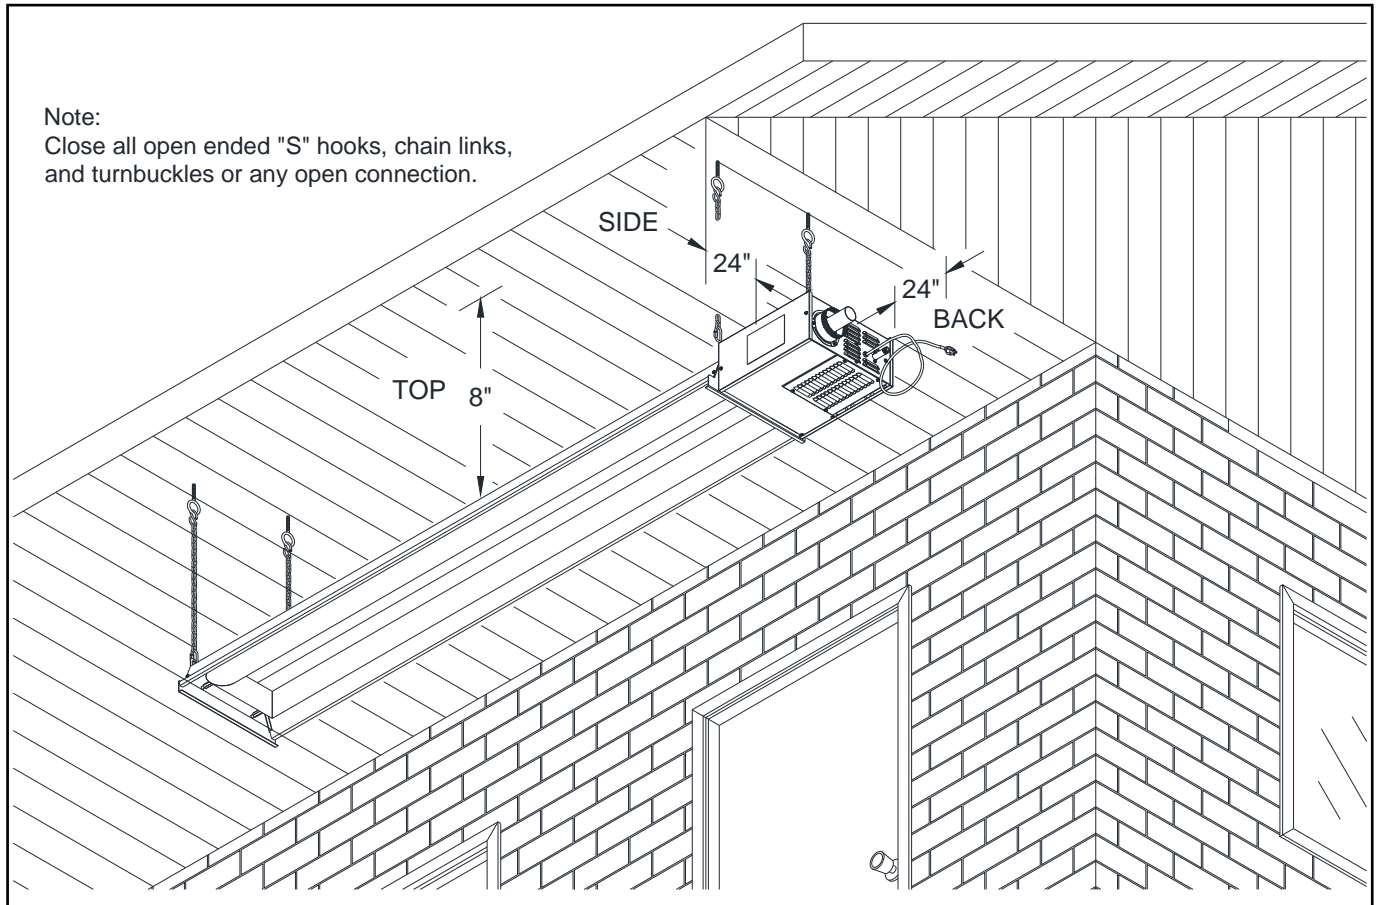
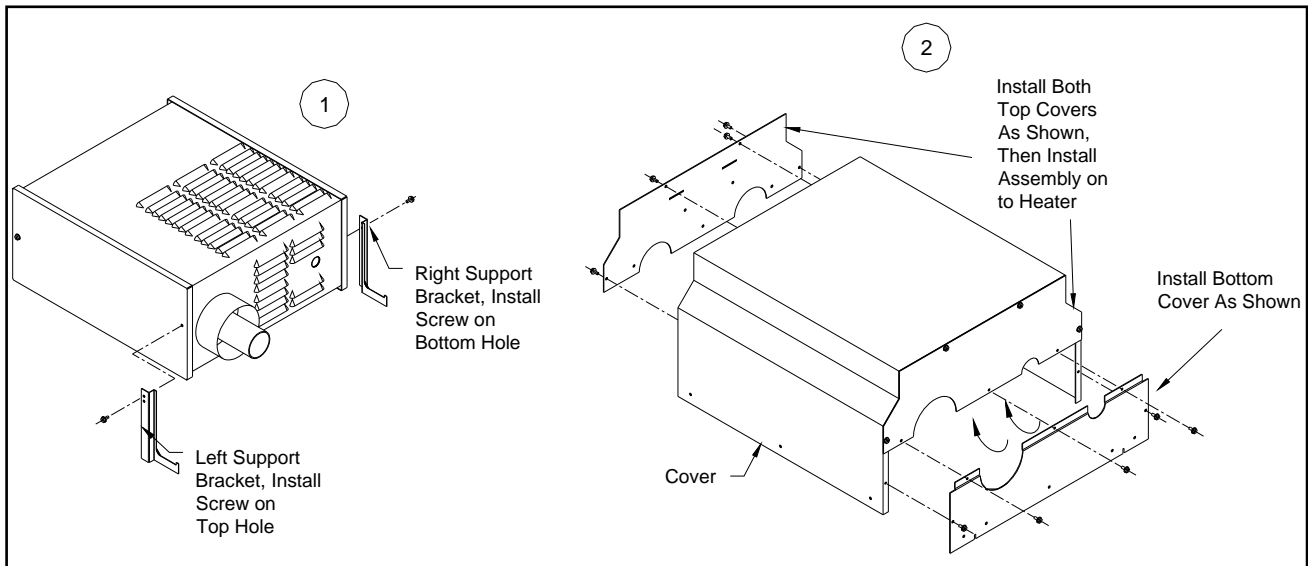
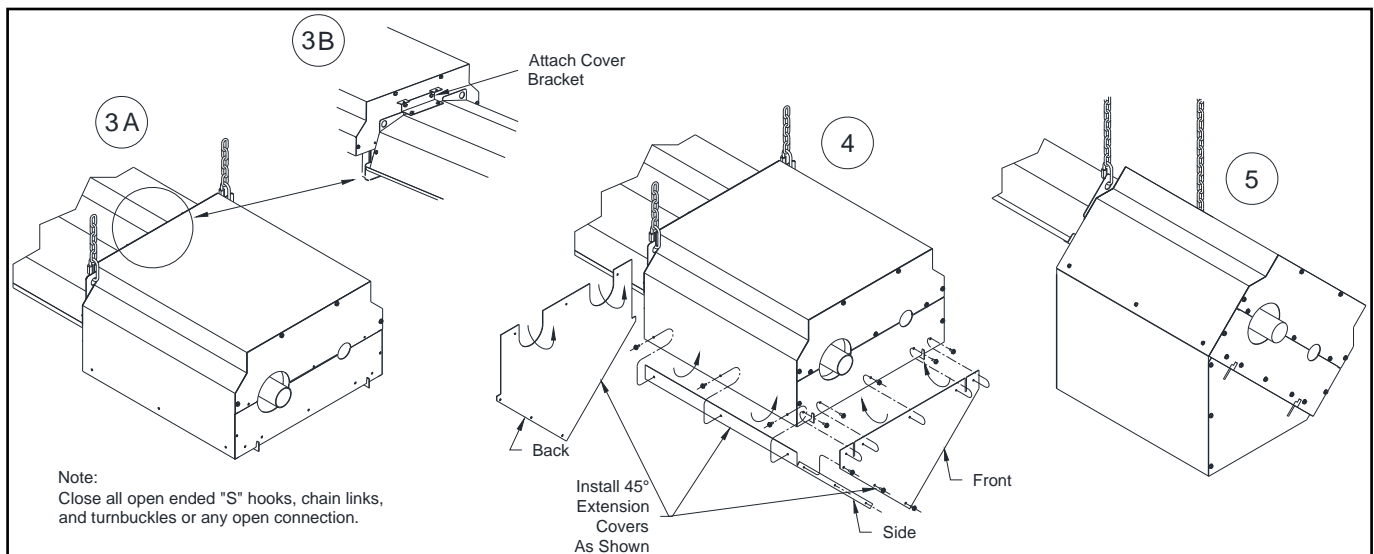
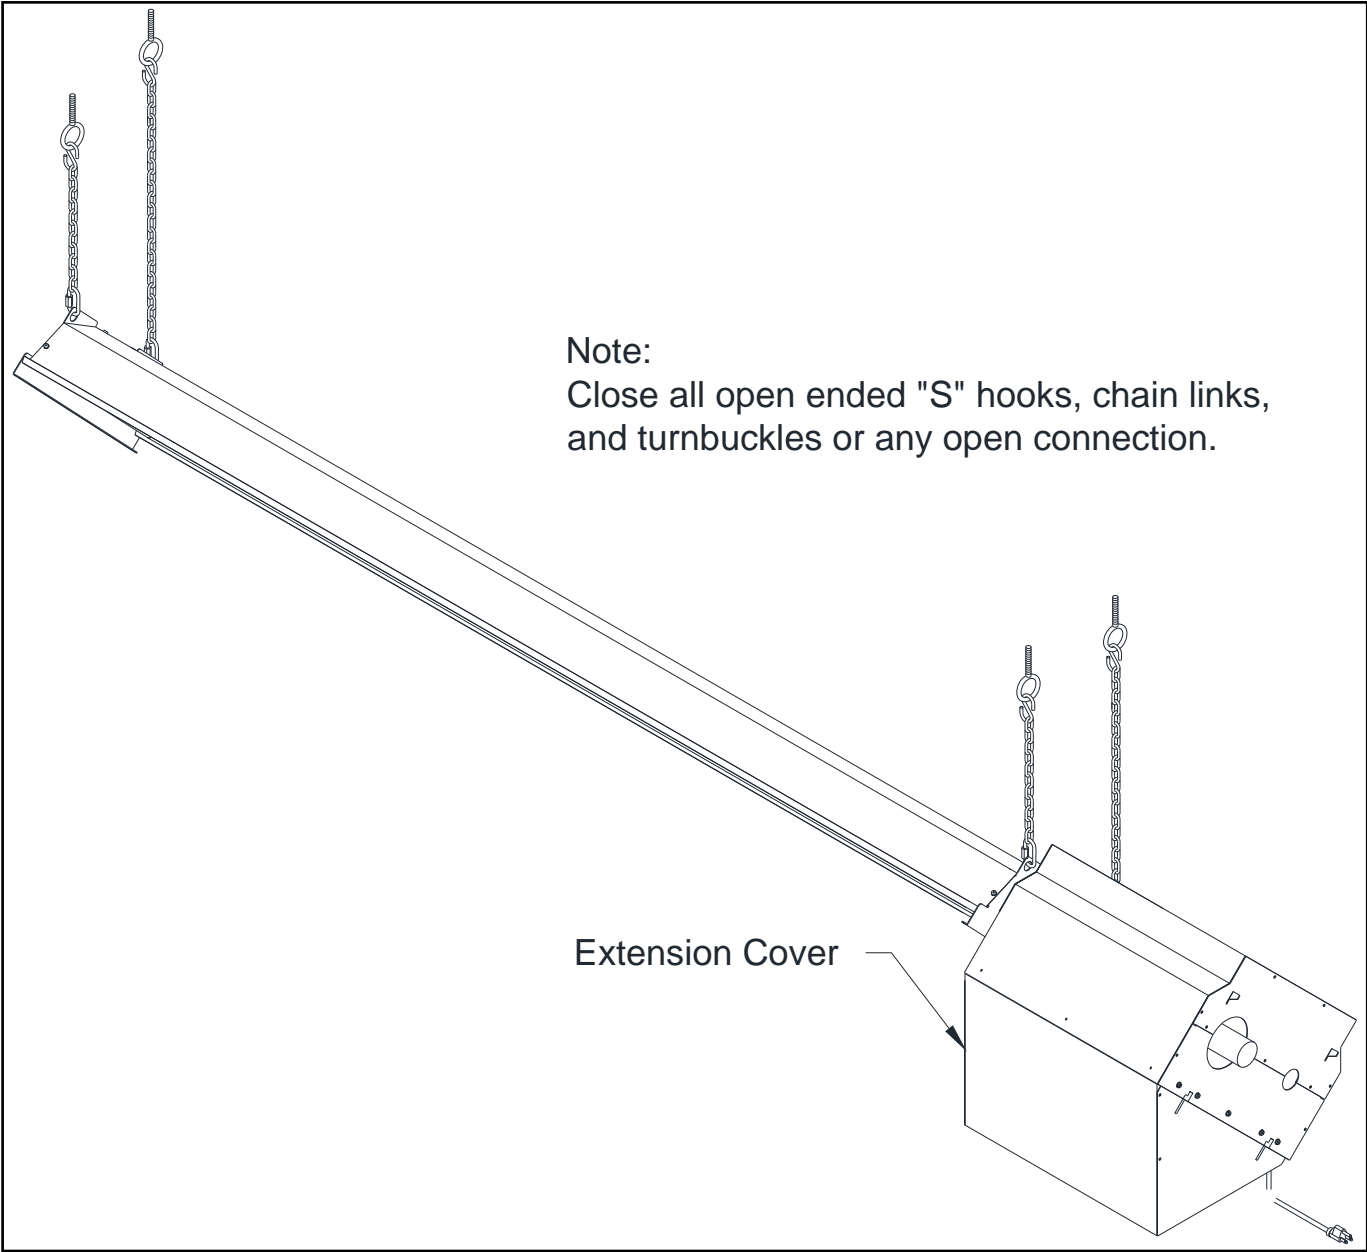

Figure 4: Outdoors Heater Installation
Figure 7: Cover Installation Sequence Steps 1 and 2
Figure 8: Cover Installation Sequence Steps 3 to 5
Figure 9: Extension Cover for 45° Outdoor Installations
For outdoor installations the heater must be installed **not more** than 8" from beneath awnings, and **not less** than 24" from back and side as shown in Figure 4. If the heater cannot be protected from the elements by an overhang, then a protective cover must be installed as shown in Figure 7, Figure 8 and Figure 9.
- Install support brackets on to heater covers as shown in step 1 in Figure 7.
- Pre-assemble the cover and its top covers and bottom cover as shown in step 2 in Figure 7.
- Secure cover to heater by screwing in the cover bracket in step 3B in Figure 8.
- Install the extension covers (Front, Back, and Side) as shown in step 4 in Figure 8 if needed.
When a heater is to be installed outdoors at 45° without the presence of an adequate eave, an extension cover must be used to protect the heater, refer to step 4 in Figure 8. This extension cover is available through your local SRP Dealer (Part # RS021). Note that both the cover and extension cover must be used in this case.